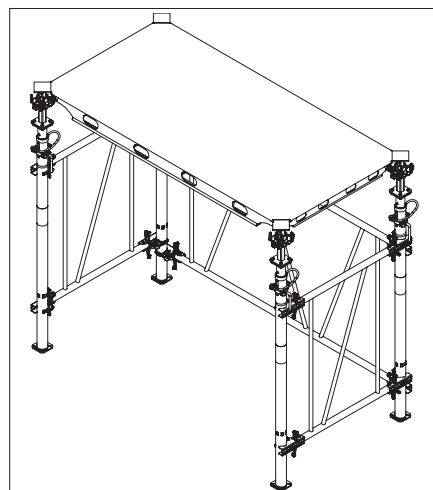

Fig. A5.05
9. Install bracing ADB 120 to the fourth prop. (Fig. A5.05)